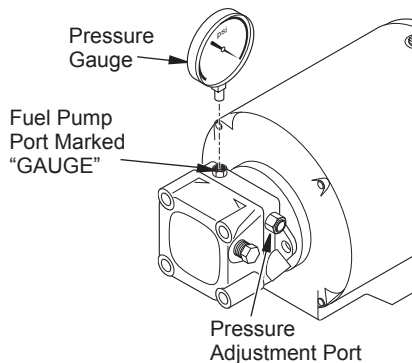

Figure 12 - Adjusting Pump Pressure
2. Install accessory pressure gauge (part number 110380-01) to fuel pump port marked "GAUGE" (see Figure 12). Do not use bleeder valve port to check the pressure. The bleeder valve port contains pressure higher than operating pressure. Setting pump pressure with gauge in the bleeder valve port results in wrong operating pressure.
4. Adjust pressure. Use small flat blade screwdriver to turn slotted screw at fuel pump port at top right side of pump. Turn screw clockwise to increase pressure. Turn screw counterclockwise to decrease pressure. See specifications in Figure 12 for correct pressure for each model.